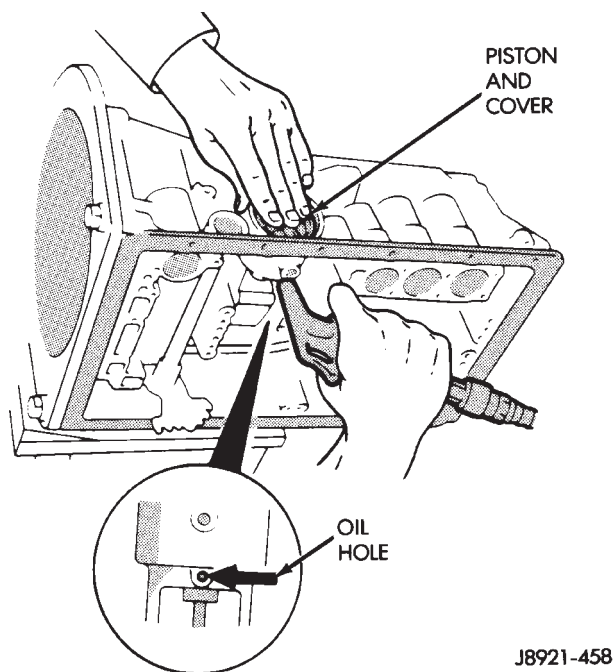

Fig. 31 Removing Servo Cover And Piston
- (3) Remove servo piston and cover with compressed air. Apply compressed air through oil hole in servo boss to ease piston out of bore (Fig. 31).